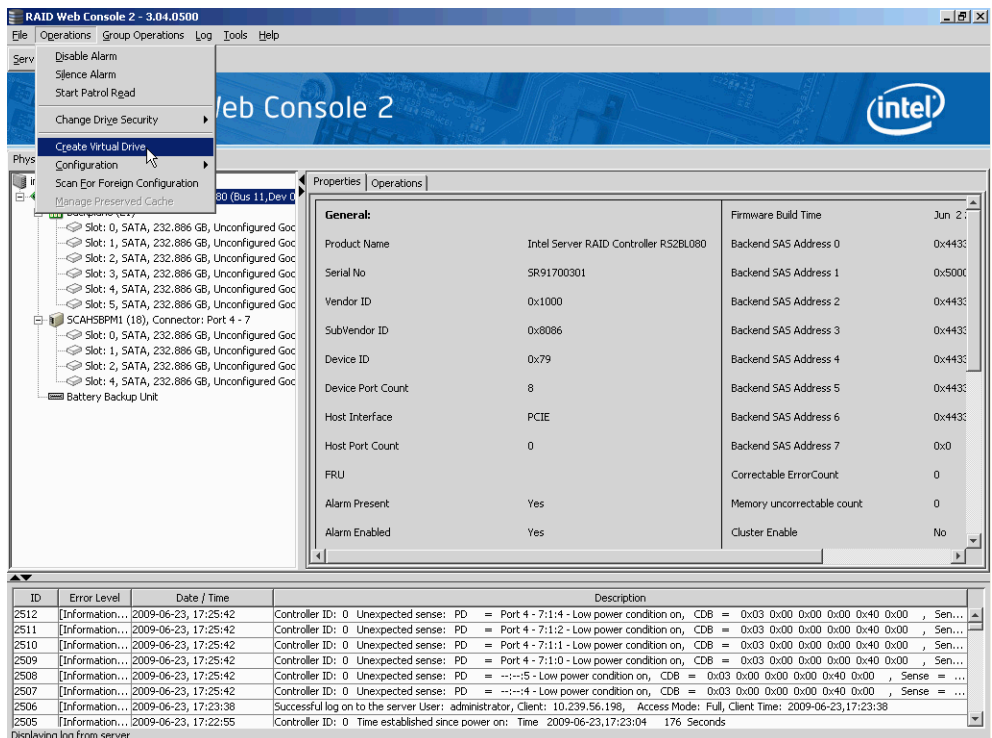

Figure 131. Virtual Drive Creation Menu
- Select the controller node and select **Operations** -> **Create Virtual Drive** in the menu bar, as shown in Figure 131